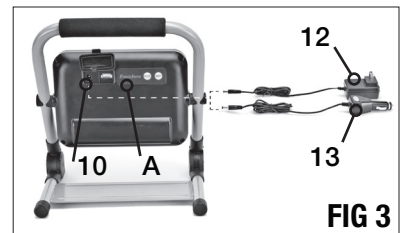

FIG 3
CHARGING/RECHARGING THE WORK LIGHT (FIG 3)
2. Connect the 120V AC power charger and the charging port (10) as shown in FIG 3.
3. Plug the AC charger into a standard 120V/60Hz power outlet to start charging. A lit red "PowerSmith" logo (A) indicates the charging is in progress. The "PowerSmith" logo turns green when the charging is completed.
2. Connect the 12V DC charger (13) and the work light as shown in FIG 3.
3. Insert the 12V DC plug into the accessory outlet of a vehicle or other 12 volt DC power outlet to start charging. A lit red "PowerSmith" logo (A) indicates the charging is in progress. The "PowerSmith" logo turns green when the charging is completed.